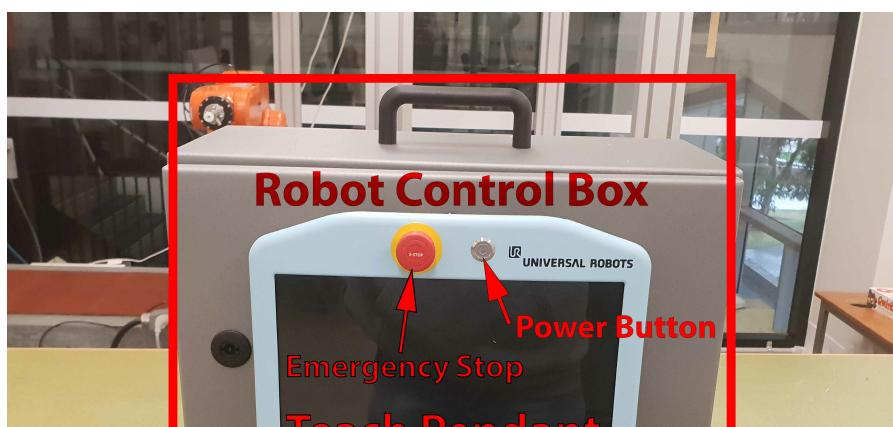

Figure 1 Robot Control Box and Teach Pendant
- Undock the teach pendent from the Robot Control Box and securely hold-on to the teach pendent by using the strap attached to the back of the teach pendent (See Figure 1).